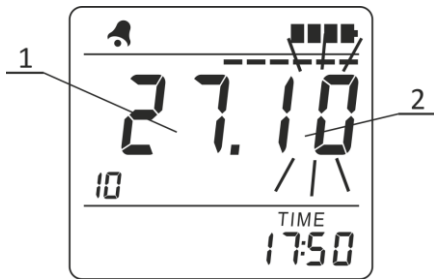

Figure 2.14 – LCD of the radiometer
A short press of MODE button saves a new value of the year in the radiometer memory. The new value of year blinks three times on the LCD of the radiometer to show that it has been saved. The date (1) and month (2) are then displayed on the LCD (Figure 2.14). When the month digits are blinking, it means that their values can be programmed. They are programmed with the help of THRESHOLD button in a similar way to the minute digits programming.